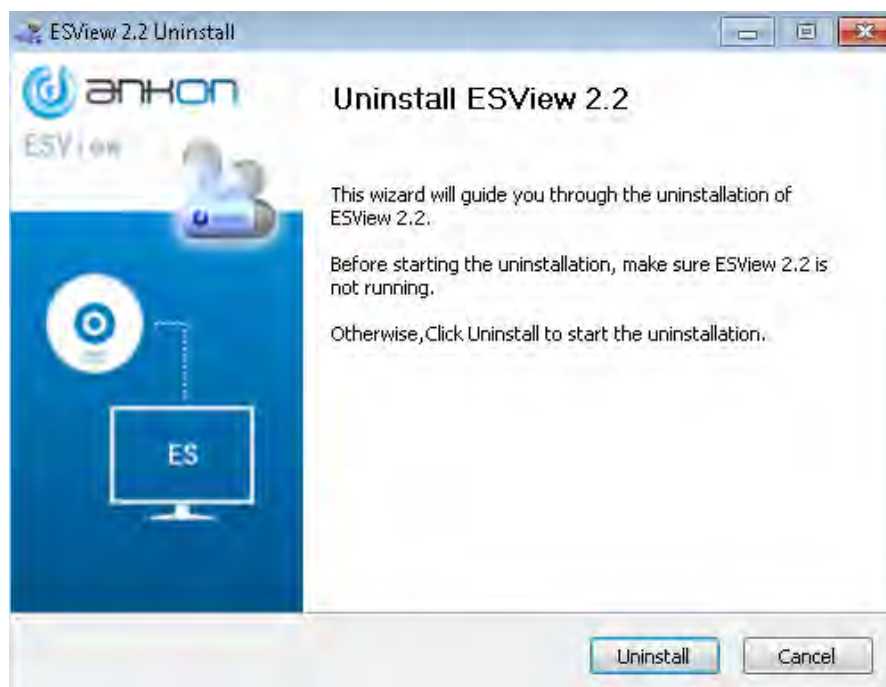

Figure 3-6: Uninstallation Dialog Box
1. To uninstall the ESView software, from the Windows Start menu, select “Programs” → “ESView ” → “Uninstall ESView”. The uninstallation dialog box (Figure 3-6) appears. Click “Uninstall” to begin the uninstallation.